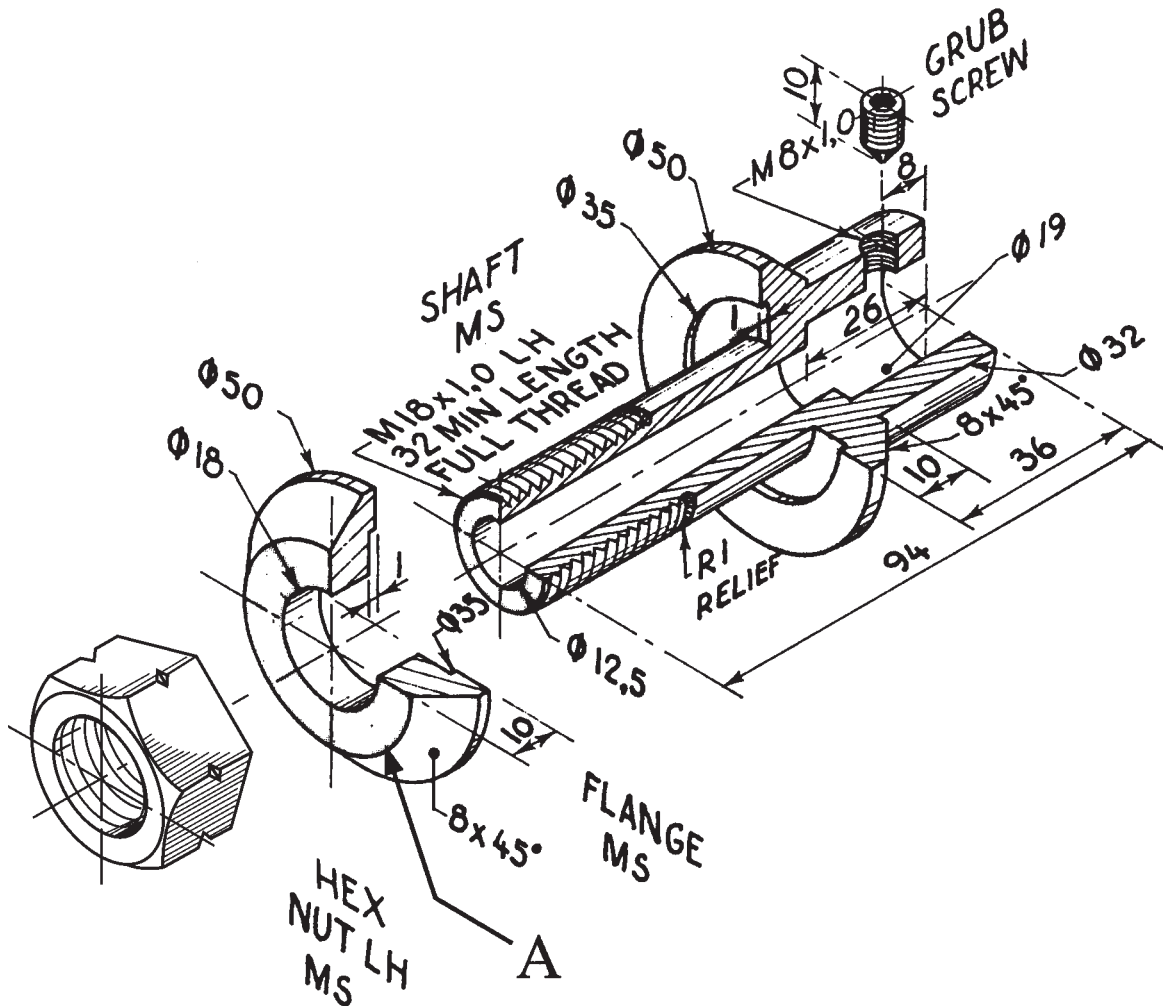

Fig. 7
Refer to the drawing of the buffing arbor shown in Figure 7.
- (a) State the type of drawing shown in Figure 7. 1